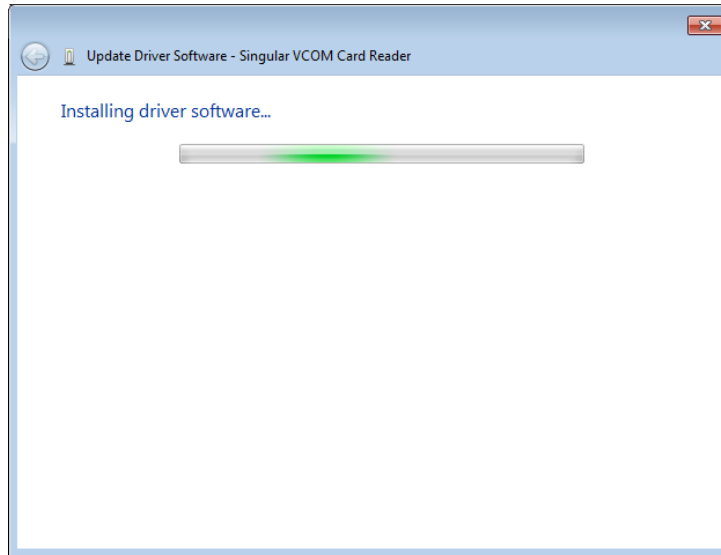

Figure 5-17: Installing Driver Window
Step 4: The following window (**Figure 5-17**) appears as the driver is installed.